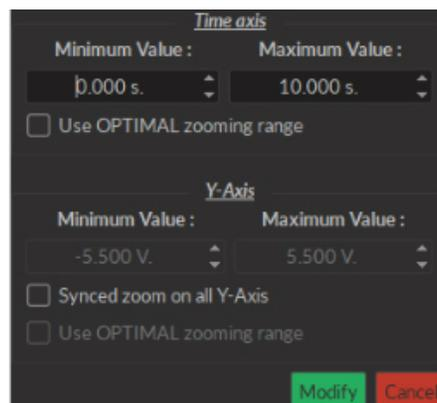

Figure 3.21: Zooming Menu Window
2. The **Reset Zoom** button (Fig. 3.20) sets the graph zoom to a pre-defined value. This value is defined using the **Zooming menu** (Fig. 3.21), accessed using the **Gear** button.